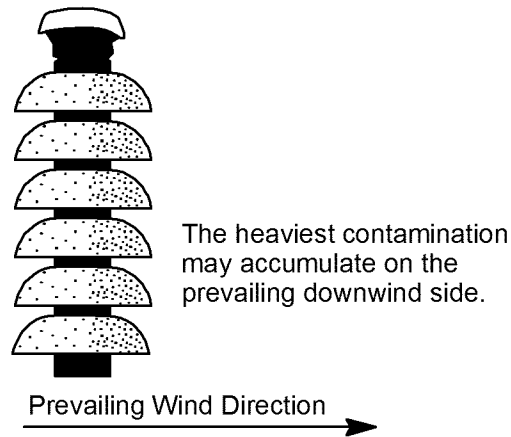

Figure 5-2
- A. Contaminants do not always accumulate evenly on insulators. The prevailing wind direction will cause heavier deposits on the downwind side of the insulator than on the upwind side. (See Figure 5-2 below.)